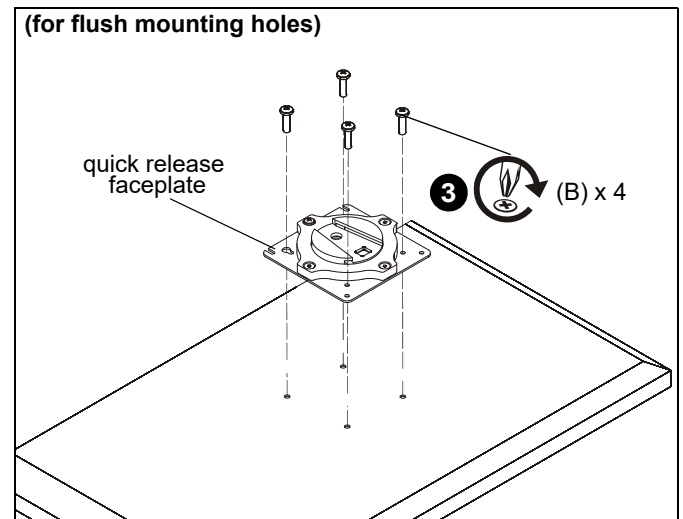

Figure 8
- Using Phillips screwdriver, carefully install four M4x10mm screws (B) through corresponding holes on faceplate and into the mounting holes on the display. (See Figure 8)